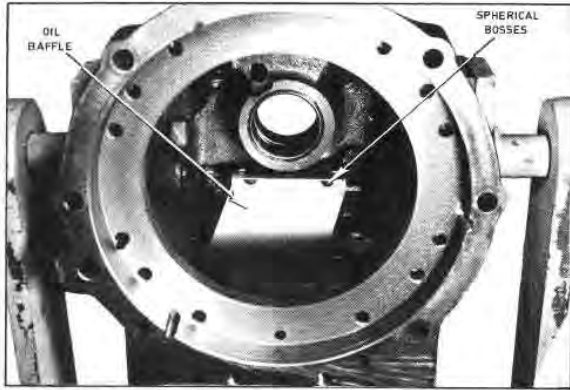

Fig. G48 — Oil Baffle in Position
2. Snap the baffle into position by lifting it up on the curved portion so that the two large holes are located firmly on the spherical bosses at the rear end of the case. (Figure G48).